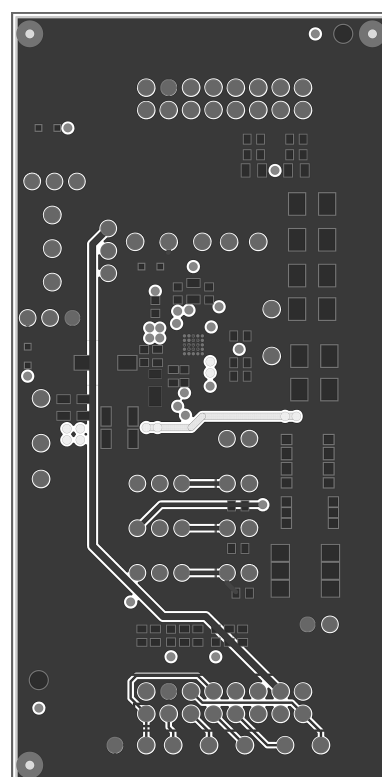

Figure 14. LP5526 Evaluation Board Layer 4
4. Bottom, solder side, V_{DD_USB} (Figure 14)